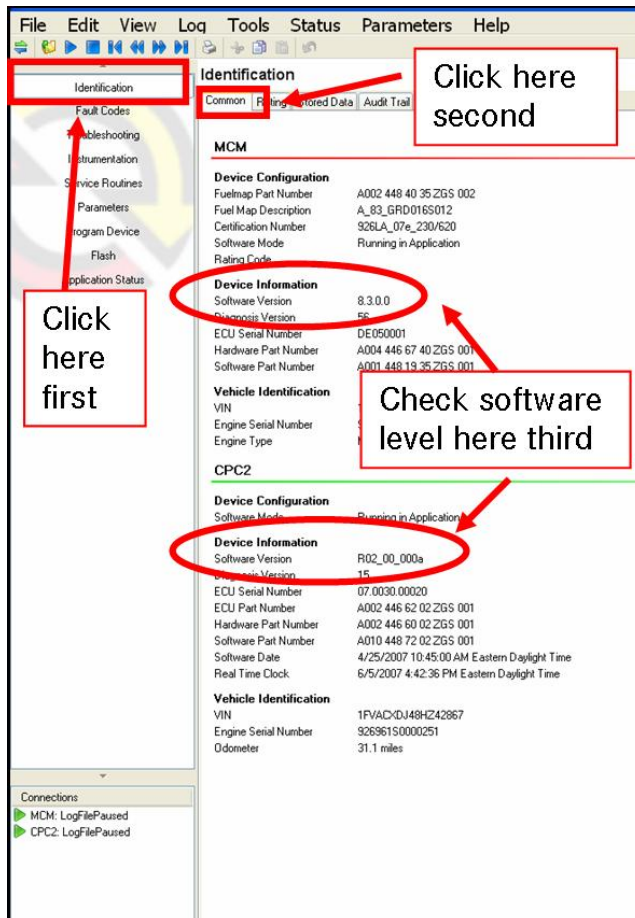

Figure 2 – Proper Identification of MCM Software v8.3 and CPC Software r2.0.
- Using either DDDL 7.0 or DDRS 7.0, attach the diagnostic computer to the vehicle and turn ON the ignition. Click on the "Identification" button on the left side of the screen, and then click on the "Common" tab near the top. Verify the MCM software is v8.3 and the CPC software is r2.0. See Figure 2. If the software needs to be updated, call the Detroit Diesel Customer Support Center at 313-592-5800.